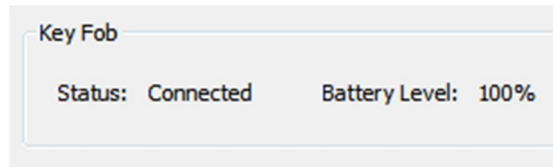

Figure 3.15: KES Demonstrator: Key Fob Connected
4. Once the Key Fob has connected to the Host via the Bluetooth Smart link, the connection status changes from **Disconnected** to **Connected**, see Figure 3.15.